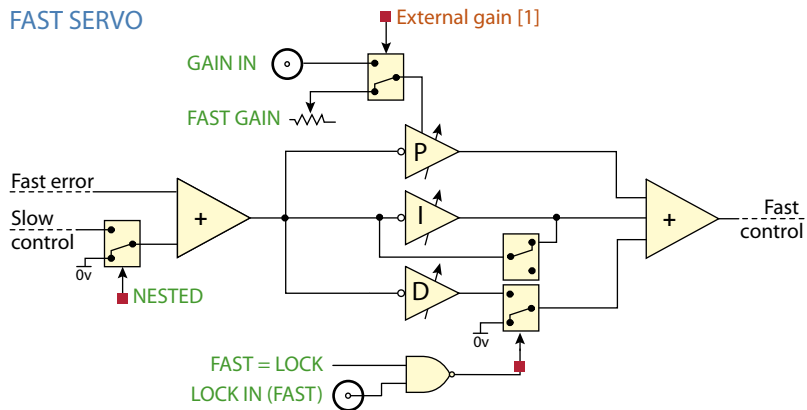

Figure 3.5: Schematic of fast feedback servo PID controller.
The fast feedback servo (figure 3.5) is a PID-loop which provides precise control over each of the proportional (P), integral (I) and differential (D) feedback components, as well as the overall gain of the entire system. The fast output of the FSC can swing from -2.5 V to 2.5 V which, when configured with a MOGLabs external cavity diode laser, can provide a swing in current of ± 2.5 mA.